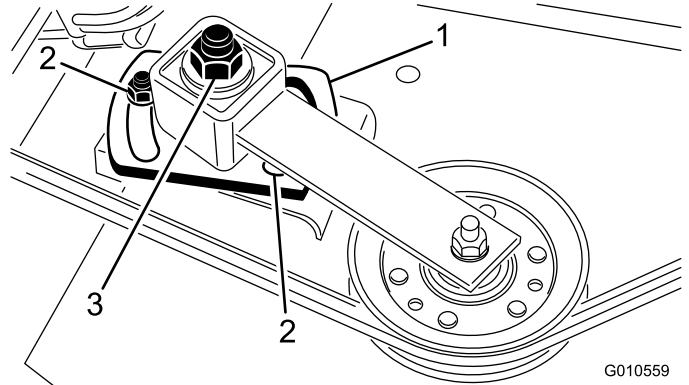

Figure 28
4. Loosen the 2 nuts securing the idler plate in place. Using a socket and torque wrench, tighten the idler adjusting nut to 24-41 N-m (25-30 ft-lb) (Figure 28).